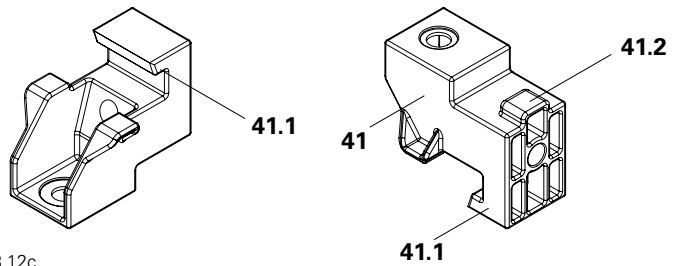
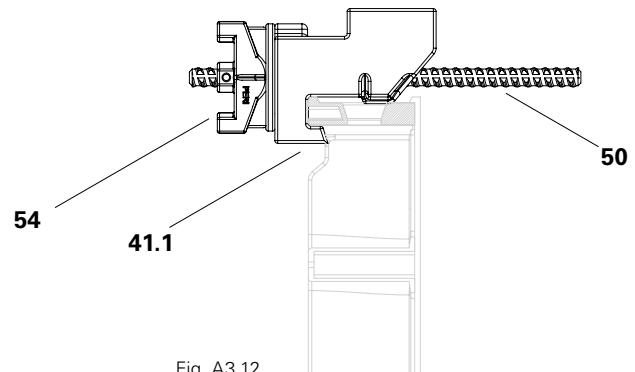

Fig. A3.12c
Fig. A3.12
3. Tighten the tie rod with the DW 15 wingnut counterplate (**54**). (Fig. A3.12 + Fig. A3.12c)